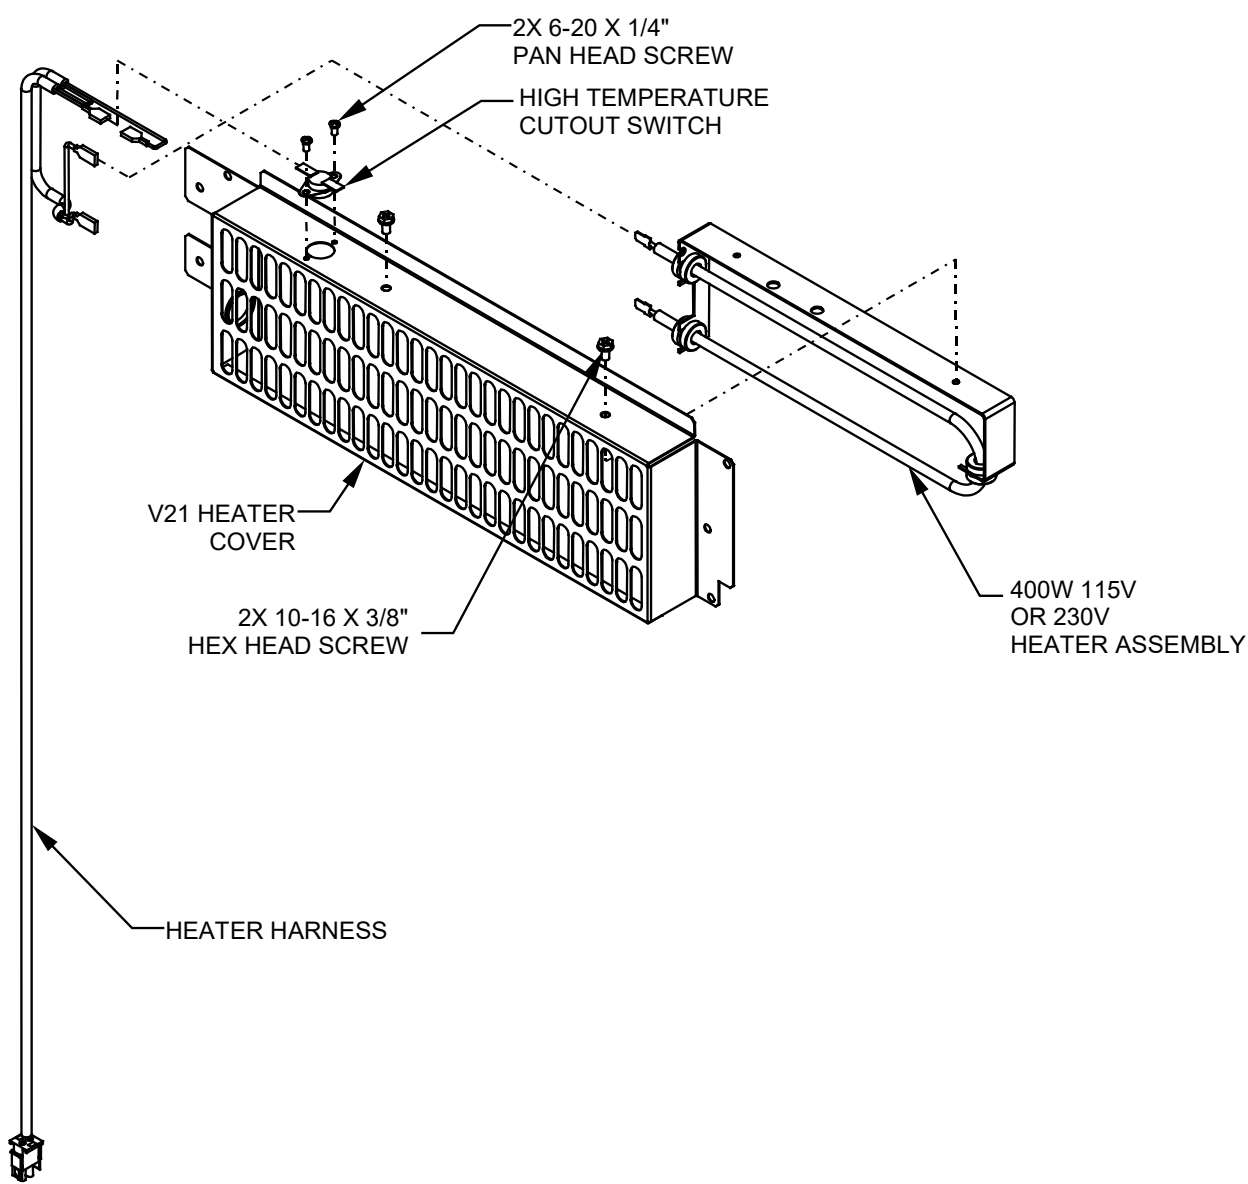

FIGURE 1
- Step #2** Pre-assemble the heater assembly using parts 1122261, 1124167, 1122477, 1123541, V802047 (qty 2), V800630 (qty 2). See Figure 1.